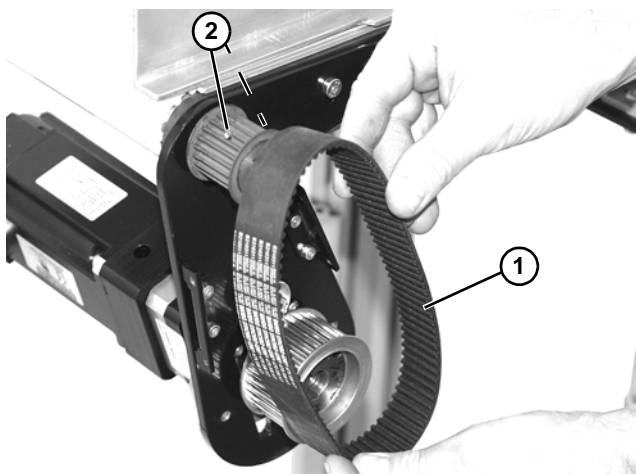

Figure 52
3. Remove timing belt (**Figure 52, item 1**).
*If timing belt does not slide over pulley flange, loosen driven pulley set screws (**Figure 52, item 2**) and remove pulley with belt (**Figure 52, item 1**). For re-installation, see "Timing Belt Replacement (2200 Series)" on page 52 steps 3 through 8 on page 6.*